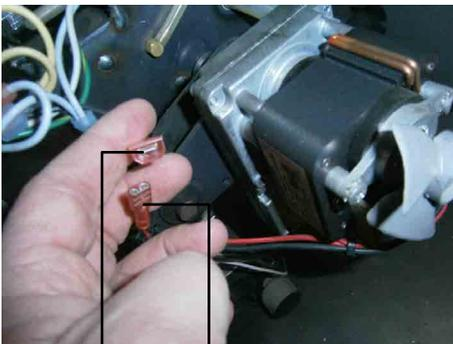

Fig. 4
- The male connector will be on the wiring harness and the female connector will be on the feed motor wire. Fig. 3 & Fig. 4.
- Wire the LWCO control contacts in series with the feed motor on the pellet boiler. Fig. 4